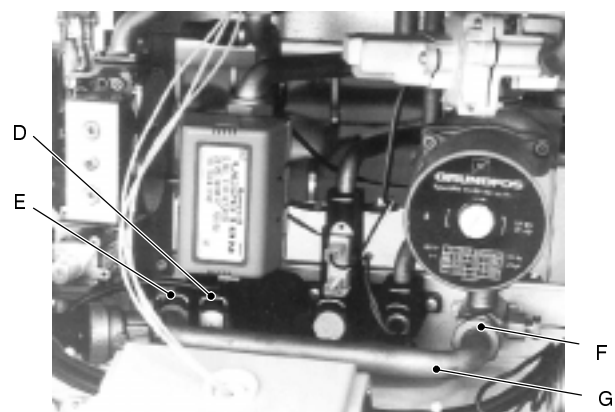

fig. 75
- 3 remove forks D and E and completely loosen the pipe fitting F (fig. 75);